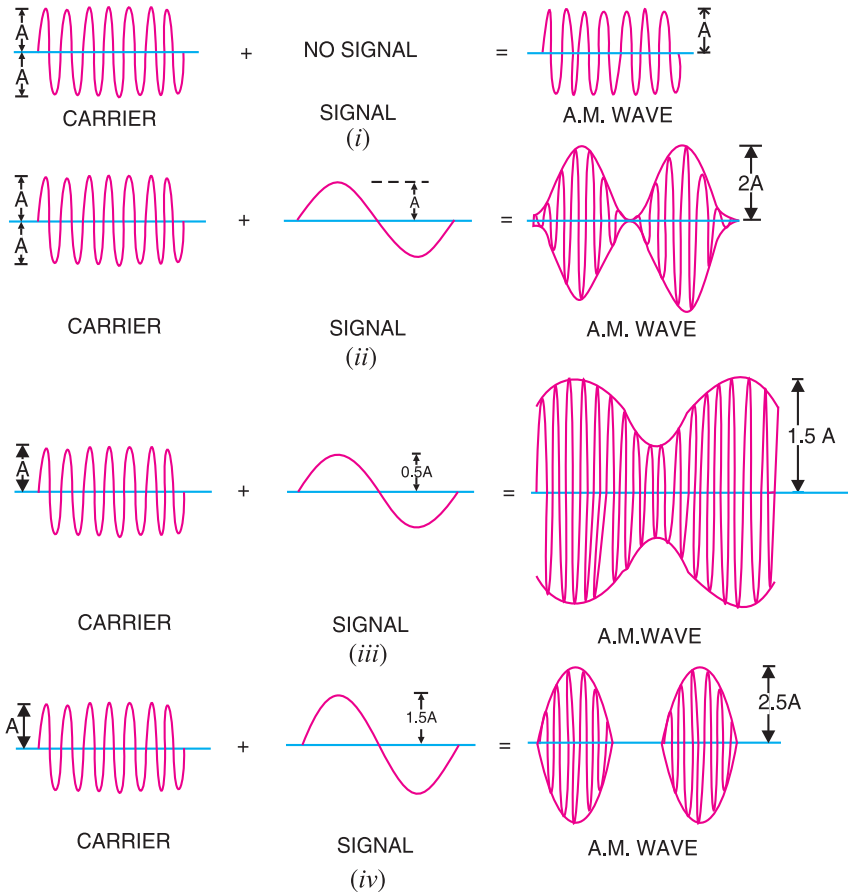

Fig. 16.3
The value of modulation factor depends upon the amplitudes of carrier and signal. Fig. 16.3 shows amplitude modulation for different values of modulation factor m .
- (i) When signal amplitude is zero, the carrier wave is not modulated as shown in Fig. 16.3 (i). The amplitude of carrier wave remains unchanged.
(ii) When signal amplitude is equal to the carrier amplitude as shown in Fig. 16.3 (ii), the amplitude of carrier varies between 2A and zero.
(iii) When the signal amplitude is one-half the carrier amplitude as shown in Fig. 16.3 (iii), the amplitude of carrier wave varies between 1.5 A and 0.5 A.
(iv) When the signal amplitude is 1.5 times the carrier amplitude as shown in Fig. 16.3 (iv), the maximum value of carrier wave becomes 2.5 A.
Importance of modulation factor. Modulation factor is very important since it determines the strength and quality of the transmitted signal. In an AM wave, the signal is contained in the variations of the carrier amplitude. When the carrier is modulated to a small degree (*i.e.* small m), the amount of carrier amplitude variation is small. Consequently, the audio signal being transmitted will not be very strong. The greater the degree of modulation (*i.e.* m), the stronger and clearer will be the audio signal. It may be emphasised here that if the carrier is overmodulated (*i.e.* $m > 1$), distortion will occur during reception. This condition is shown in Fig. 16.3 (iv). The AM waveform is clipped and the envelope is discontinuous. Therefore, degree of modulation should never exceed 100%.